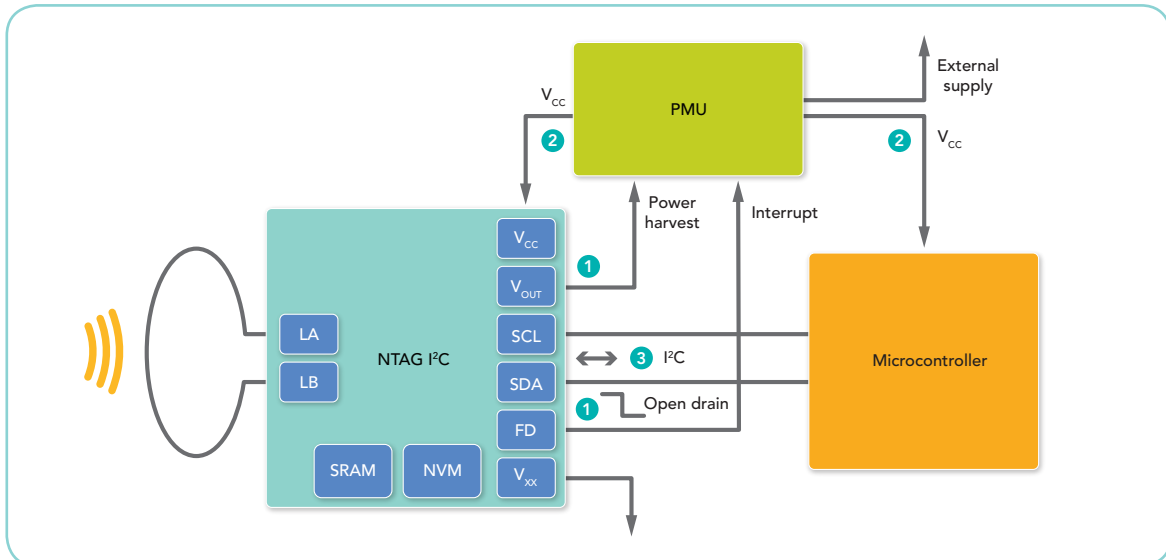

Figure 14. NTAG I2C tag chip field detect and power harvesting block diagram
The NTAG I2C tag chip's energy harvesting capability and Field Detect (FD) functions work together to help support power management. Upon application of the RF field to the antenna, the FD output asserts low, and the energy harvested by the NTAG I2C tag chip from the RF field is output ( $V_{OUT}$ ) to a Power Management Unit (PMU) (Figure 14 [1]). The PMU distributes received power to both the NTAG I2C tag chip and the microcontroller (Figure 14 [2]), which allows the I2C bus to become active (Figure 14 [3]), enabling communication. Alternatively, the power harvested by the NTAG I2C tag chip can also be applied directly as a source of power for devices requiring less energy, such as low power microcontrollers, sensors and indicators.